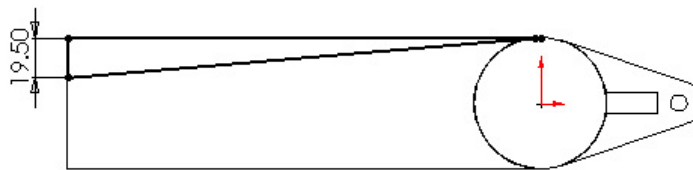

Figure 16 Lever body cut profile
31. Dimension the sketch as shown in Figure 16.